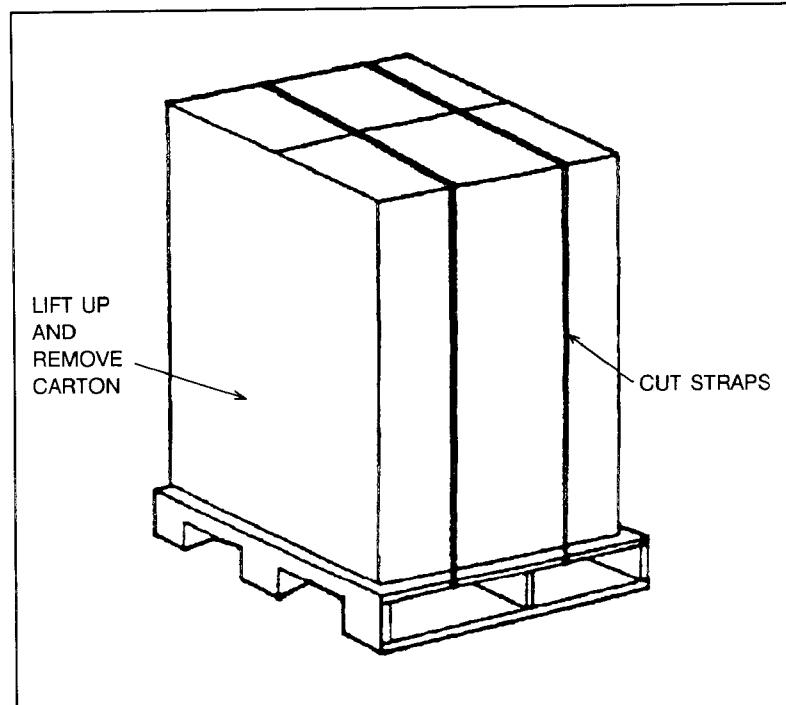

Figure 2-1. Removing the Banding Straps and Outer Carton
- a. Wearing protective glasses, stand to one side, and cut the banding straps around the outer cardboard carton (see Figure 2-1). Remove the outer carton.